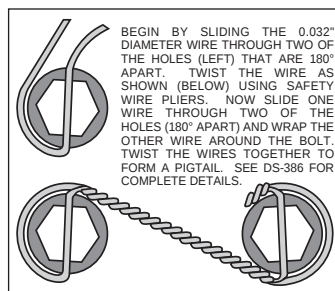

Figure 5. Safety Wire Diagram
- The hat/rotor assembly (5) has been pre-assembled at the factory using red *Loctite*® 271 on the mounting bolts and torqued to specification. For an added measure of security, the bolts may be safety wired using standard 0.032 inch diameter stainless steel safety wire as shown in Figure 5. Please refer to Wilwood's data sheet DS-386 (available at www.wilwood.com/Pdf/DataSheets/ds386.pdf) for complete safety wire installation instructions.